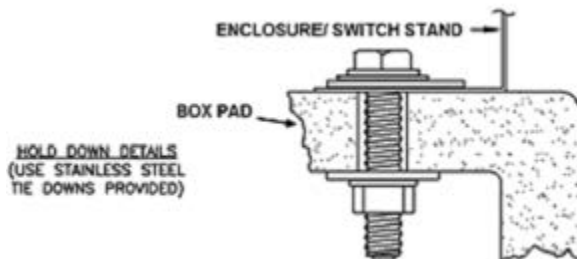

FIGURE 15
R. SET THE SWITCH ON THE BOX PAD. USING A 1/2 INCH DRILL BIT, DRILL THROUGH THE EXISTING HOLES IN THE SILL FLANGE AND THROUGH THE BOX PAD. BOLT DOWN AS SHOWN IN HOLD DOWN DETAIL. SEE FIGURE 15.